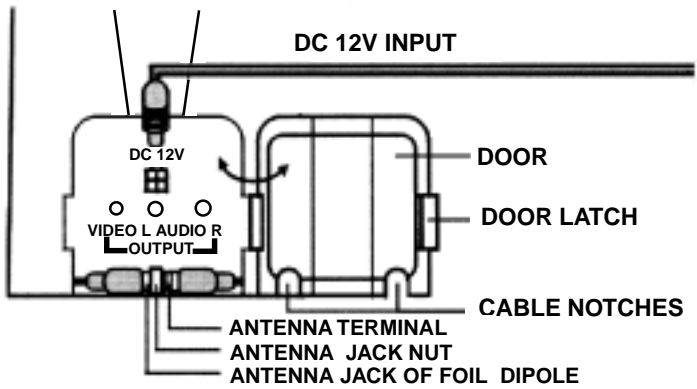

Figure 3
G. Powering the unit (Refer to Figure 3)
H. Connecting an External Antenna (Refer to Figure 3)
L. Sending AV signals (Refer to Figure 3)